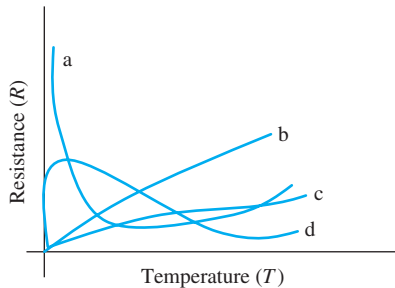

FIGURE P11.6 Resistance versus temperature curves for Problem 11.6.
11.6 (A)* In Figure P11.6, which curve represents the characteristic of a thermistor?